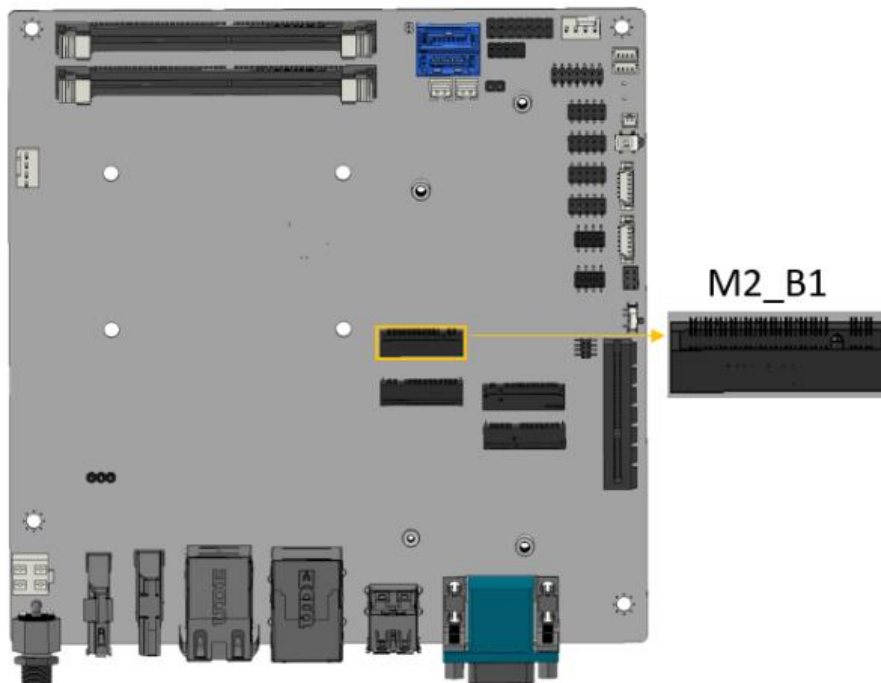

Figure 3-23: M.2 B-key Slot Location
- CN Location:** See Figure 3-23